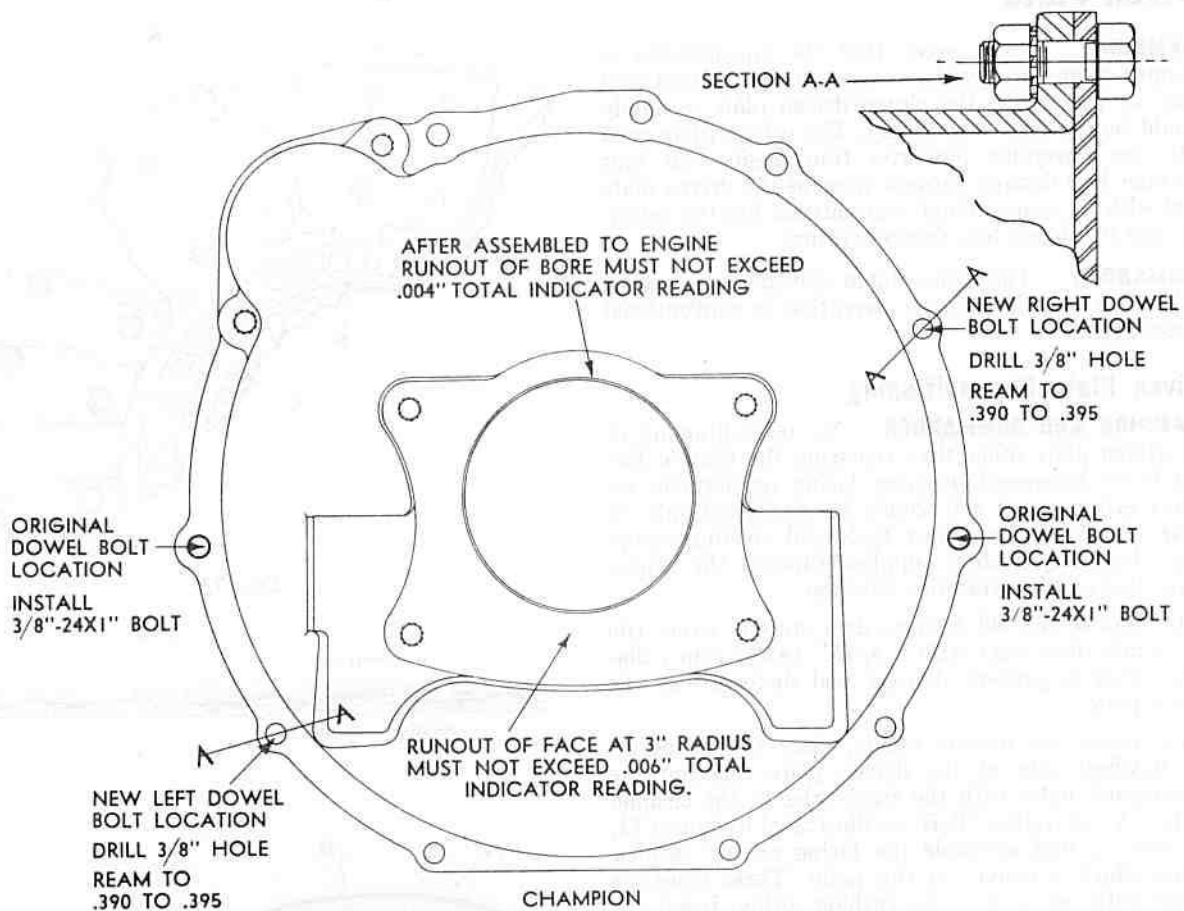

FIG. 77
**CHAMPION** Install the new clutch housing on the engine rear plate and install all cap screws, bolts, lock washers, and nuts in all but the two side holes which are to be used as dowel holes (see Fig. 77). Then tighten the bolts and cap screws sufficiently to hold the clutch housing in place and assemble the clutch aligning gage and the dial test indicator.
Using a 3/8'' (9,525 mm.) drill, enlarge the two holes to be used as new dowel positions (see Fig. 77, Sec. "A-A") and finish by reaming the hole to .3900''-.3905'' (9,9060-9,9187 mm.). Then insert the original dowel bolts in the new dowel holes and install the 3/8'' (9,525 mm.) bolts, lock washers, and nuts in the old dowel holes.